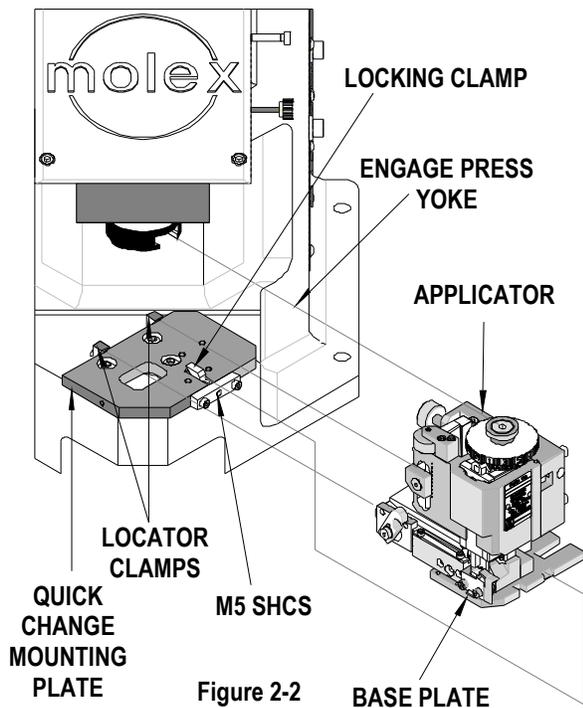

Figure 2-2
- c. Slide the applicator onto the quick-change mounting plate until the two notches on the left side engage against the stops, and at the same time, guide the lug bolt into the adapter on the press. See Figure 2-2.